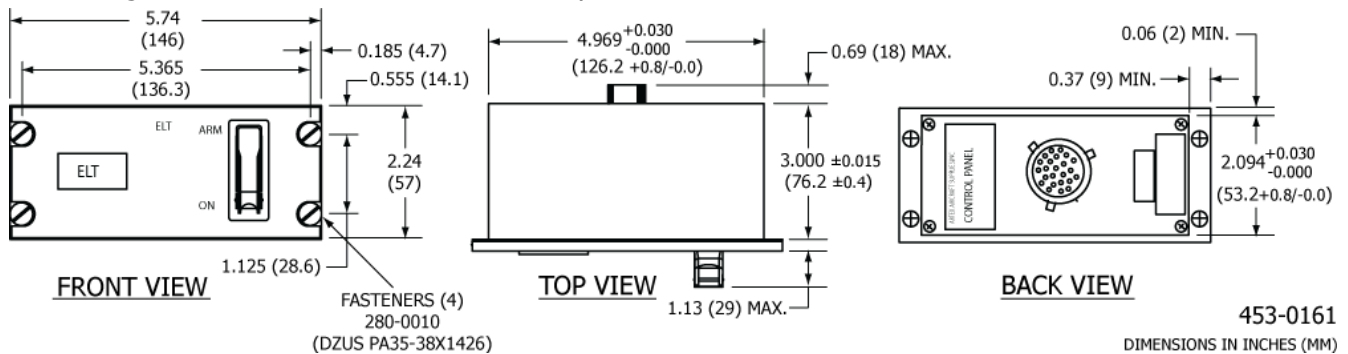

Figure 18 Remote Switch Panel Assembly Outline and Dimensions
- 2) The panel assembly requires a space approximately 5.74 x 2.24 in. (146 x 57 mm) on the panel or console surface, with a depth of 3.00 in. (77 mm), excluding room for the harness connection. See Figure 18 Remote Switch Panel Assembly Outline and Dimensions.
- 1) Provide an opening in the instrument panel or other mounting location which meets the dimensional requirements shown in Figure 18 Remote Switch Panel Assembly Outline and Dimensions.
- 2) Mount Dzus rails on the sides of the opening, if necessary. See Figure 18 Remote Switch Panel Assembly Outline and Dimensions for rail center line dimensions.